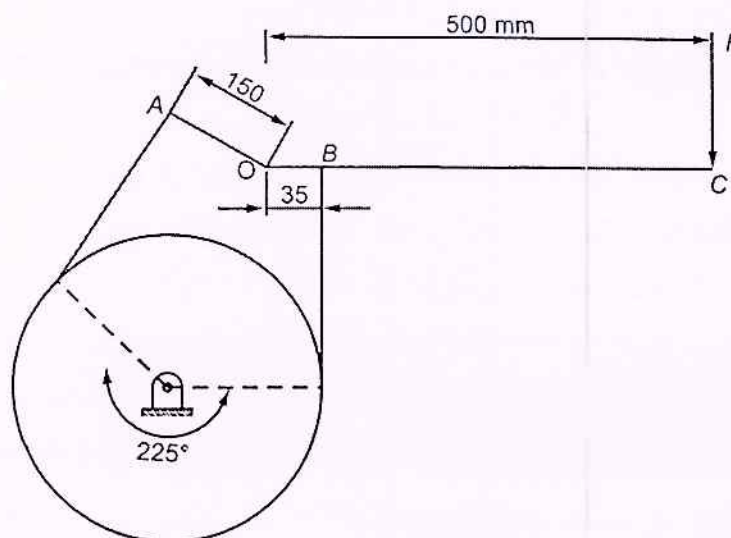

Figure 1
- 14 A differential band brake as shown in figure 1 has an angle of contact of 225° . The band has a compressed woven lining and bears against a cast iron drum of 350 mm diameter. The brake is to sustain a torque of 350 N-m and coefficient of friction between band and the drum is 0.3. find (14)